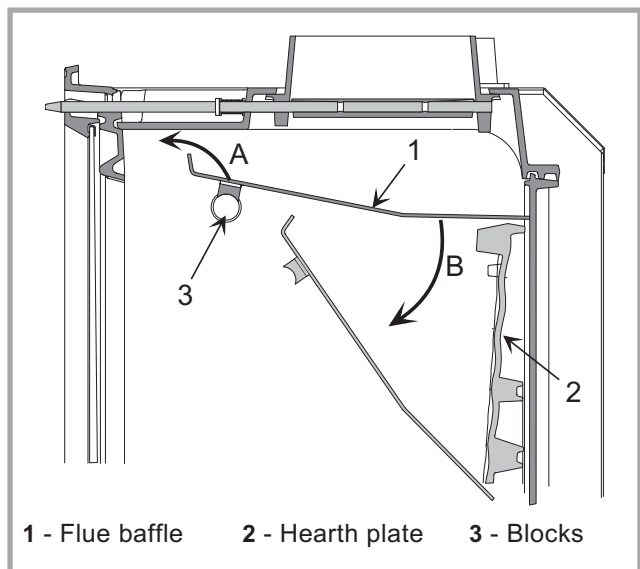

Figure 15 - Removing the flue baffle
Removing the flue baffle : Figure 15
- Raise the front of the deflector **A**, slide it above the stops **3** before removing the back **B** resting on the decorative back hearth **2**. Director the deflector into the stove as indicated in figure 15.